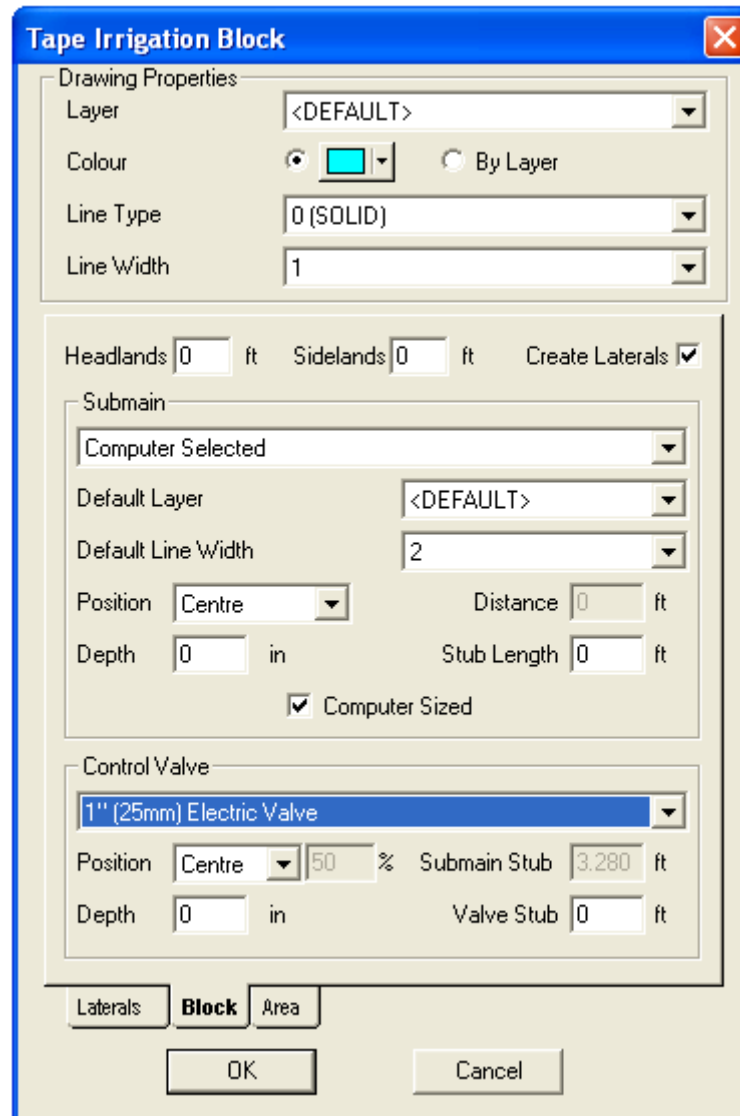

Figure AD 1
5. In the "Submain" area of the dialog box set **Centre** as the "Position" but leave as **Computer Selected**. In the "Valve" area of the dialog box set the "Position" to **Centre** and specify the valve as the **1" (25mm) Electric Valve** (Figure AD 1). Click [OK].